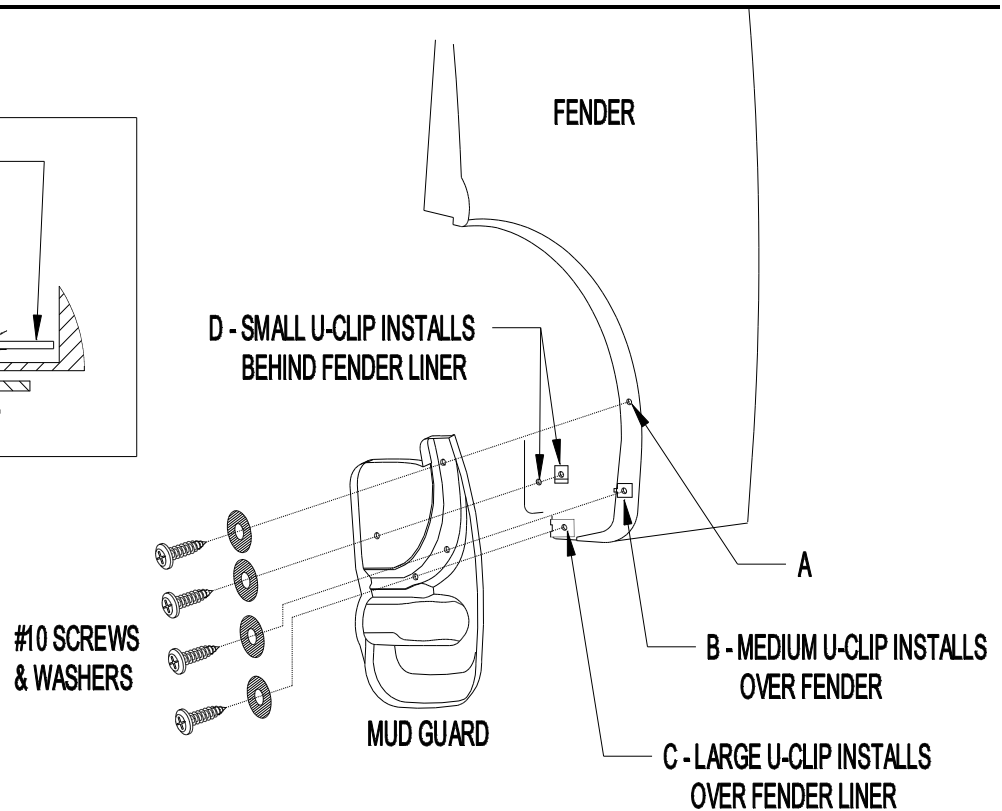

Figure 1
1. Remove the existing fastener from location B (Figure 1).
6. Install a Large U-clip over the fender liner and align with drilled hole at location C (Figures 1 and 2).
8. At location D install a #10 Screw and Washer, thru the mud guard, fender liner and into a Small U-Clip placed on the back side of the liner. DO NOT clip the Small U-Clip over the fender liner (Figure 1).